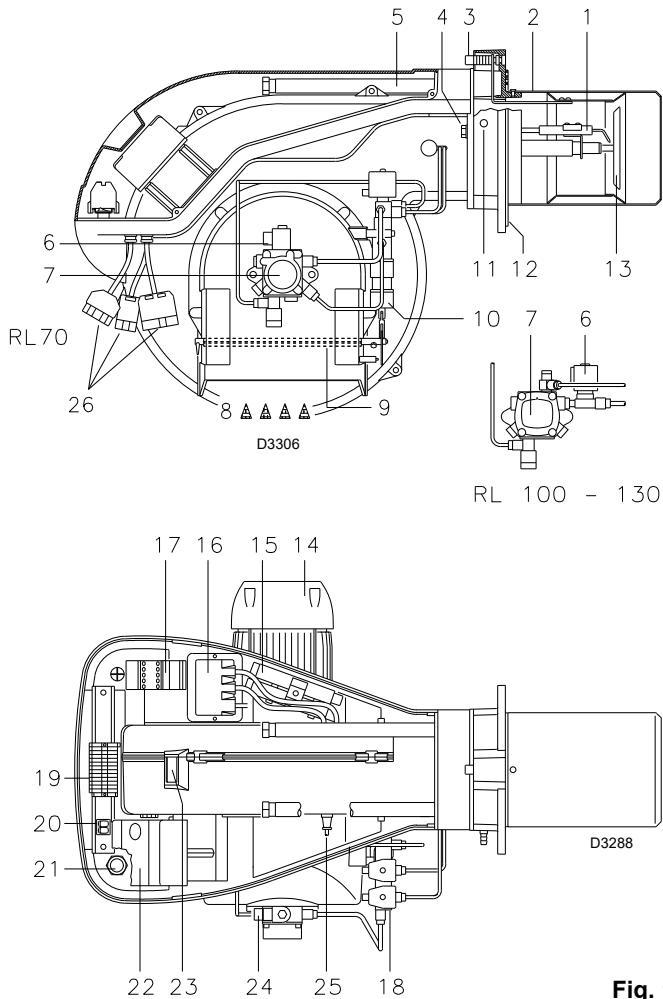

Fig. 1
4.3 Burner description (Fig. 1)
Control box lock-out: if the control box 22)(Fig. 1) pushbutton (red led) lights up, it indicates that the burner is in lock-out. To reset, hold the pushbutton down for between 1 and 3 seconds.
Motor trip: release by pressing the pushbutton on thermal cut-out 17)(Fig. 1).
(1) Blast tube: short-long
- 2 - Extensions 15)(Fig. 1) for slide bars 5)(Fig. 1)